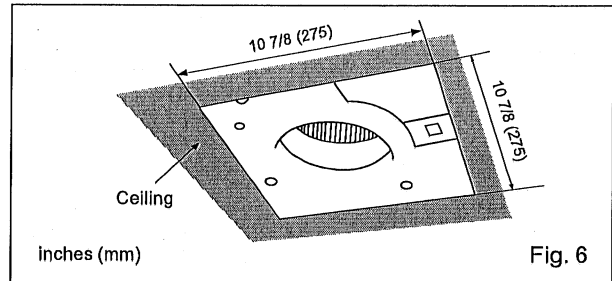

Fig. 6
8. Finish ceiling work. Ceiling hole should be aligned with the edge of the flange. (Fig.6)